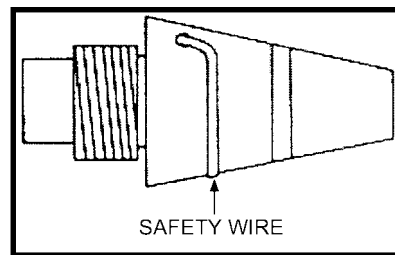

Figure 7-16. M935 PD fuze.
b. **M935 PD Fuze** (Figure 7-16).
- (1) Functions: Impact.
- (2) Settings: Superquick or 0.05-second delay action.
- (3) Remarks: The fuze has a safety wire.